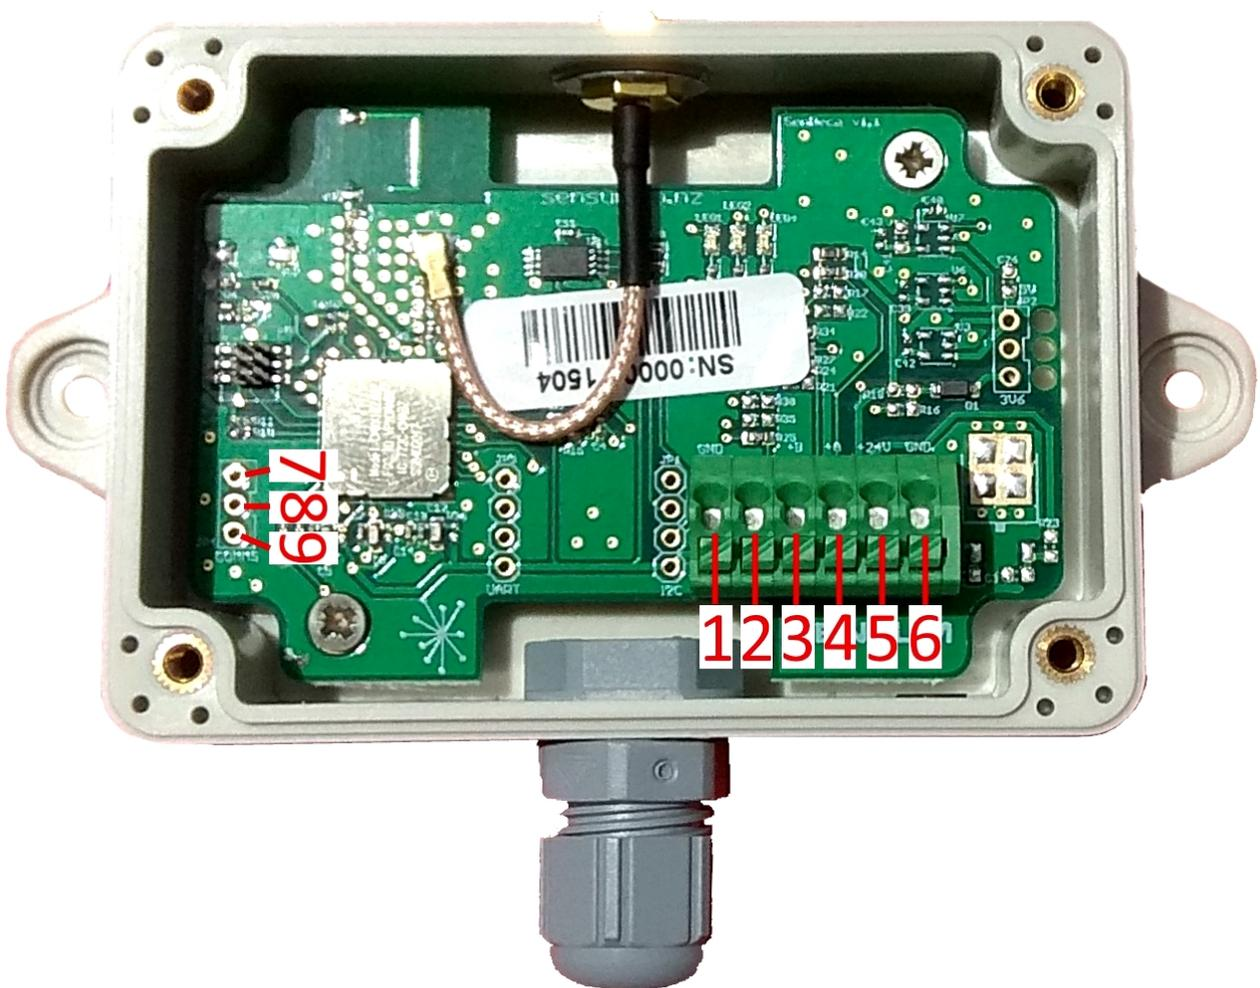

Figure 4: SenProbe wire connection guide.
5. Now that the wires are inside the package they are to be connected to the board through the green connector. Hold down connector buttons to open and release the individual connections. Connect wires according to Fig. 4 and Table 1 below.
4. Using a serial cable, physically connect the device to your computer by the pins 7/8/9 shown in Fig. 4.